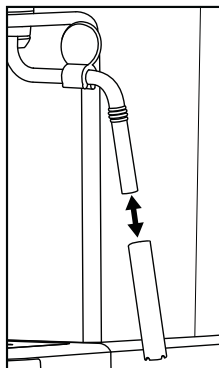

Figure 1
- 1) Place an empty container under the milk frother ⑩.
- 2) Immediately after use, turn the steam control ⑦ to the “☕/💧” position and allow the steam to escape for a few seconds.
- 3) Turn the steam control ⑦ off (as far as it will go in the direction “●”), switch the appliance off and remove the plug from the mains power socket.
- 5) Pull the casing of the milk frother ⑩ off (Figure 1) and clean it thoroughly in warm water.
- 7) Push the casing back onto the nozzle (Figure 1).